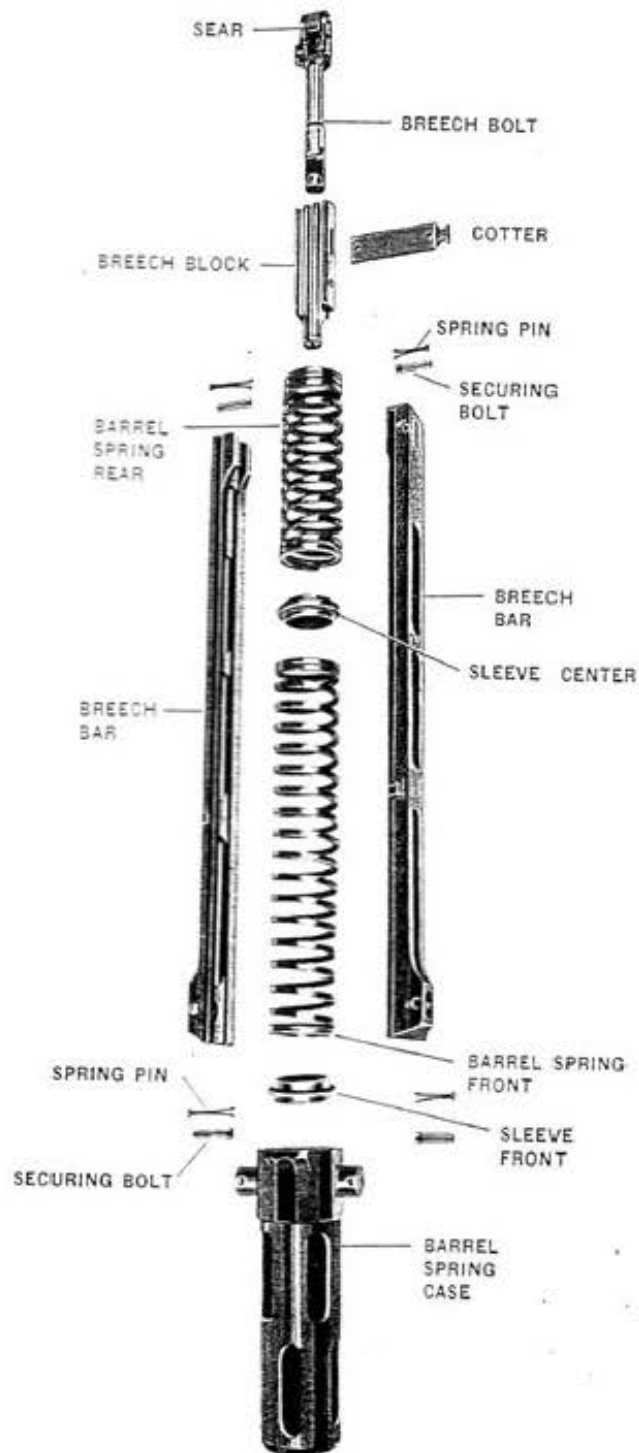

Figure 2—Recoiling Parts
The major difference between this gun and others is that the force of the explosion is absorbed in checking and reversing the forward movement of a relatively heavy bolt, or breech block, that is never locked. In most guns the force of the explosion is taken by the locked breech block and by the recoil cylinders and mechanism. See Figure 2.
(B). The recoiling parts are the breech block and the parts that connect it to a powerful two-piece barrel spring. See Figure 2. The breech block recoils and counterrecoils with a purely reciprocating action.